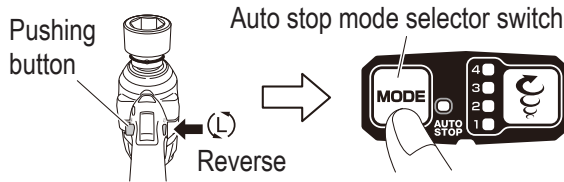

Fig. 23
(4) Auto slow mode (Fig. 23, Table 9)